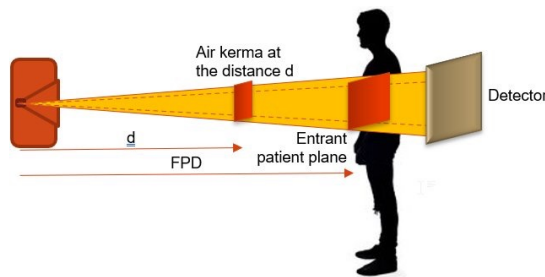

FIGURE 25
- / The entrance skin dose (ESD) is the dose to a thin layer of skin as the X-rays reach the surface of the patient (Fig. 25).